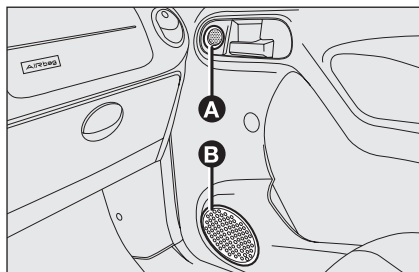

fig. 97
- two tweeters **A-fig. 97** and two woofers **B**, 40 W max power each on front doors;